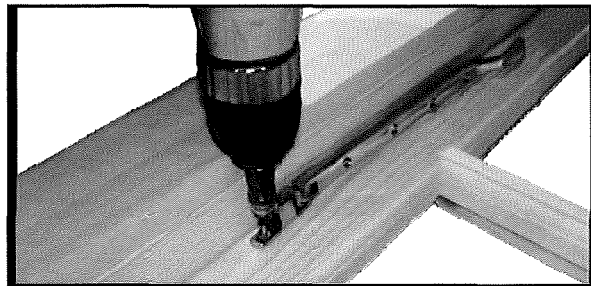

Fig A16
27. At the bottom of each window place a casement stay on top of the draught excluder strip. Visually judge the position of the stay so it looks central. Use a pin to judge how high to position the stay. Fix using 2 x 25mm screws (Fig A16).